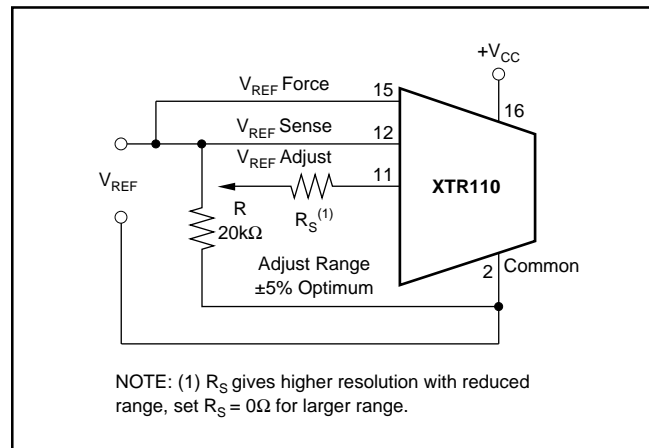
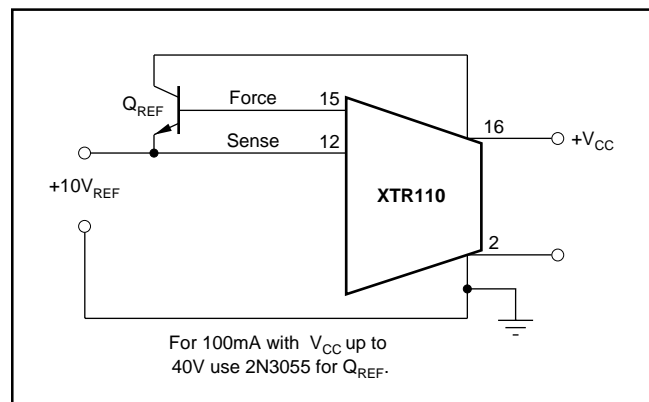

FIGURE 3. Optional Adjustment of Reference Voltage.
FIGURE 4. Increasing Reference Current Drive.
NOTES: (1) Including internal reference. (2) Span is the change in output current resulting from a full-scale change in input voltage. (3) Within compliance range limited by $(+V_{CC} - 2\text{V}) + V_{DS}$ required for linear operation of the FET. (4) For V_{REF} adjustment circuit see Figure 3. (5) For extended I_{REF} drive circuit see Figure 4. (5) Unit may be damaged. See section, "Input Voltage Range".
3 should be connected to this point. The circuit in Figure 3 shows adjustment of the voltage reference.
The current drive capability of the XTR110's internal reference is 10mA. This can be extended if desired by adding an external NPN transistor shown in Figure 4.